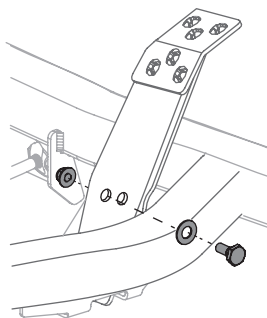

Figure 32
2. Remove the hex bolt, washer and hex nut near the center of the pedal assembly (Figure 32).